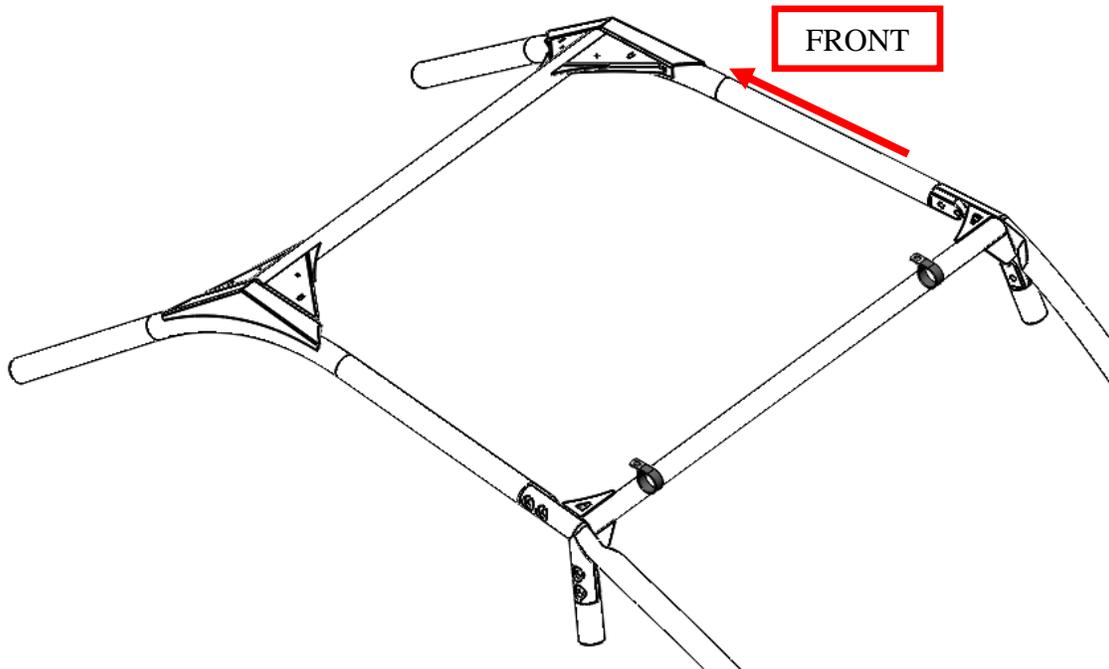

Figure 6: Approximate clamp locations.
3. Spread the clamps by hand, and slide them over the cage tubing. Place them on the cage in the approximate locations shown in Figure 6. Note the orientation of the clamp tab pointing towards the front of the vehicle. It must line up flat against the top on the correct side of the tubing.